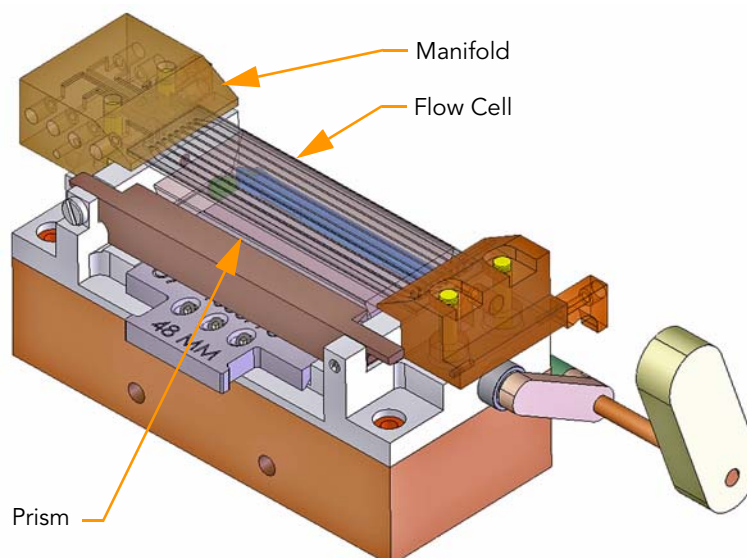

Figure 51 Flow Cell and Prism Loaded
6. Press downward on both manifolds to ensure they have seated properly (Figure 51).